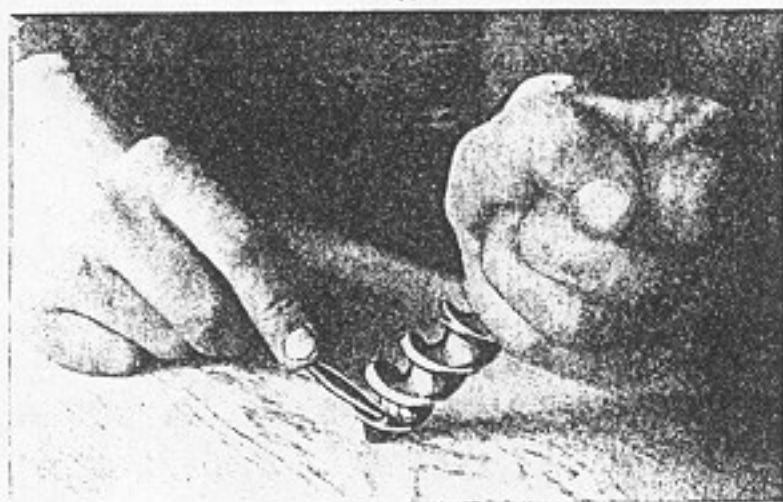

Fig. 30. Filing lips on auger bit.
2. The lips on the upper side are filed while holding the screw of the bit down against the top of the bench (Fig. 30). An equal amount must be removed on both lips.